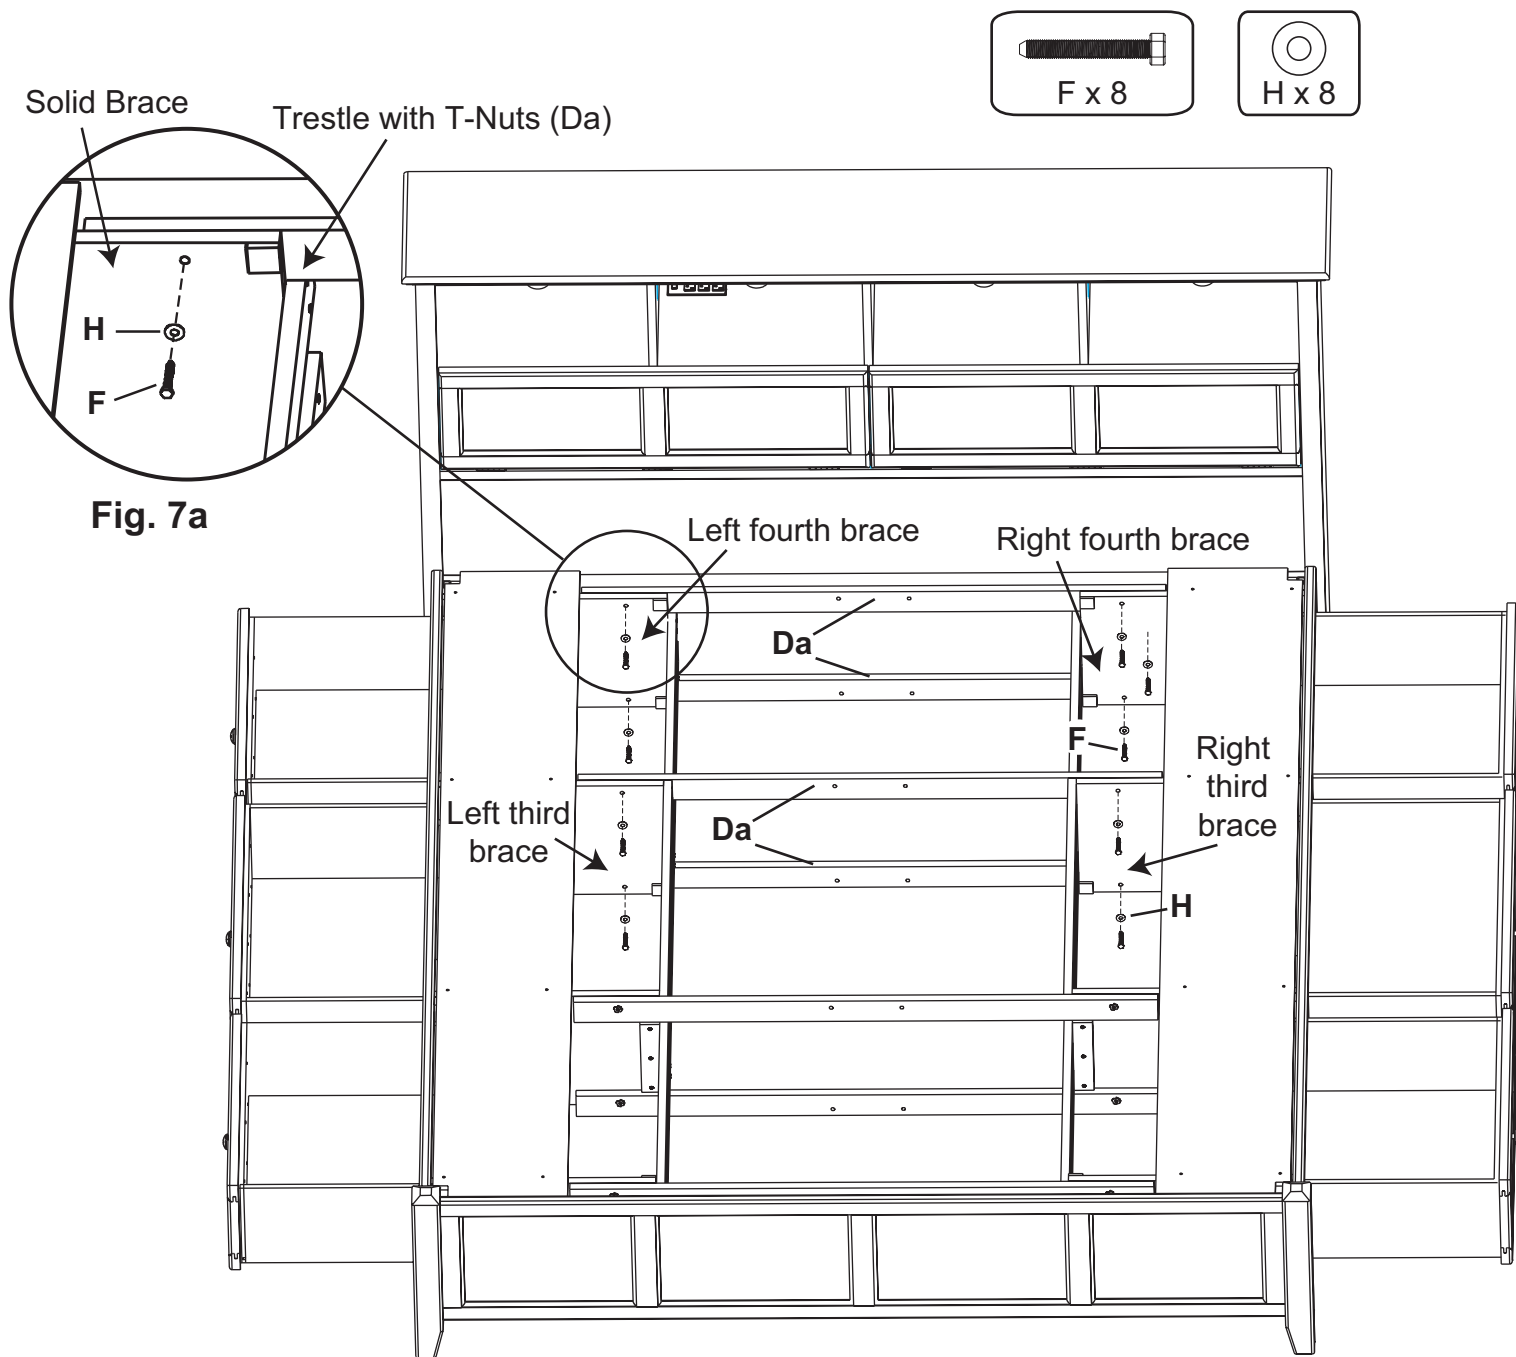

Fig. 7
7. Face the Headboard and stand in between the third and fourth braces. Place a Trestle with T-Nuts (Da) on the outside surfaces of the third upper left and right braces so the t-nuts sit near the top. See Figures 7 and 7a. Line up the upper edges of the trestle and braces so they are nearly flush. Insert two 1/4" x 1-3/4" Hex Bolts (F) and Washers (H) and tighten.
Place a Trestle with T-Nuts on the outside surface of the third left and right **lower** braces so that the t-nuts sit near the bottom. Line up the bottom edges of the trestle and braces so they are nearly flush. Insert two 1/4" x 1-3/4" Hex Bolts (F) and Washers (H) and and tighten. See Figures 7 and 7a.